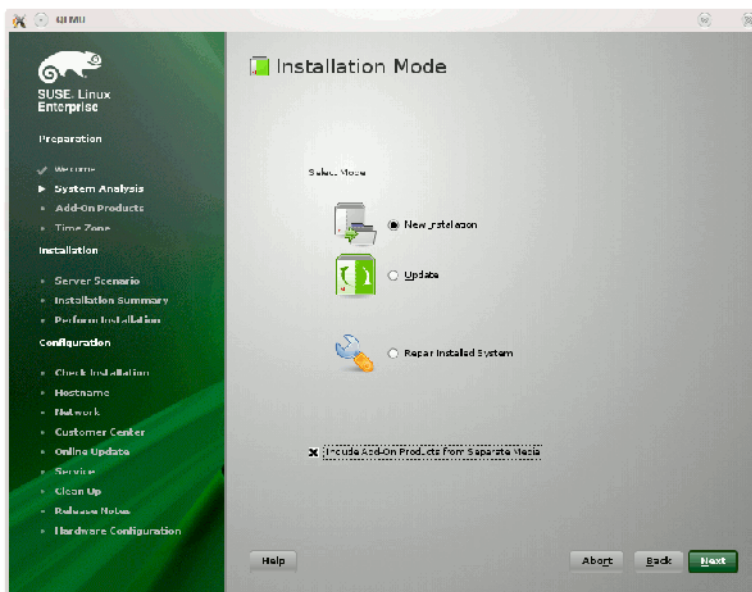

Figure 1-16 SLES11 **Installation Mode** Screen
2. Follow the steps in the *SUSE Linux Enterprise Server 11 Installation Quick Start*. When you get to the **Installation Mode** screen, as shown in Figure 1-16 on page 24, click the button next to **Include Add-On Products from Separate Media** and then click **Next** to continue.